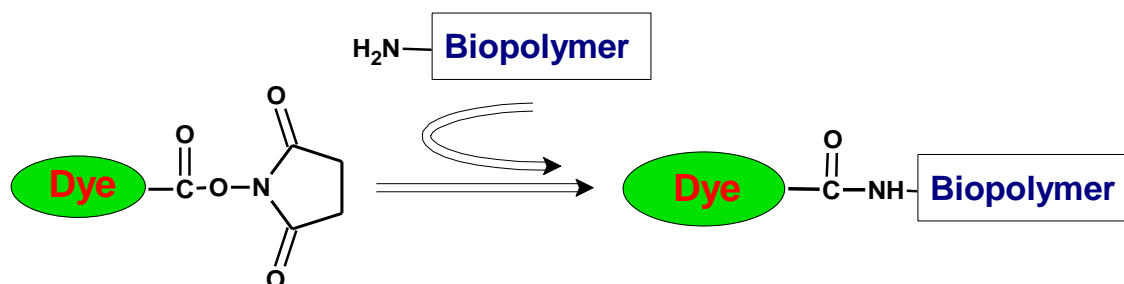

Figure 1. The succinimidyl ester group of fluorophore reacts with amine groups on the protein to form a stable carboxamide bond.
The AnaTag™ 5-TAMRA Protein Labeling Kit provides a convenient way to label proteins by using the succinimidyl ester (SE) reactive form of 5-TAMRA. Succinimidyl ester shows good reactivity and selectivity with aliphatic amines of the protein and forms a carboxamide bond, which is identical to, and is as stable as the natural peptide bond (Figure 1). 5-TAMRA is one of the most popular orange fluorophores used to label proteins. 5-TAMRA is the purified single isomer of 5-(and 6)-TAMRA that provides reproducibility for critical biological applications and avoids the inconsistency brought by minor positional difference between 5-TAMRA and 6-TAMRA. The 5-TAMRA-protein conjugates are very stable and suitable for immunofluorescent staining, fluorescence *in situ* hybridization, flow cytometry and other biological applications.